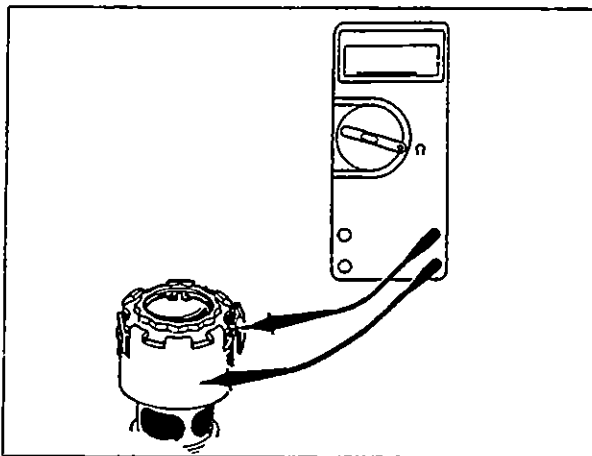

Fig. 1.1.17
**Correction:** With the blue and yellow wires disconnected at the engine brake spacers, connect one probe of the VOM to the solenoid terminal and the other probe to ground at the solenoid body (Fig. 1.1.17).